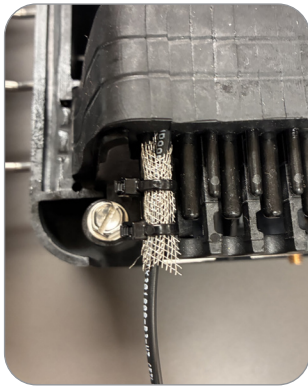

Figure 35
4. Secure the cable to the drop retention bracket using UV-resistant, black-tie wraps. It is recommended to use 8-inch long tie wraps. (Figure 35)